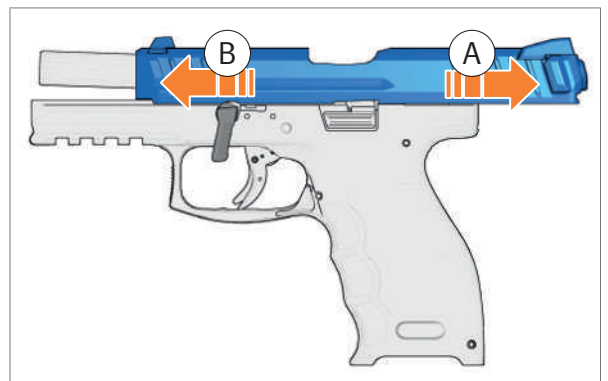

Fig. 61: Pushing slide from frame
4. Pull slide back and hold it (*Fig. 61*).
5. Move slide forwards slowly and push it from frame (*Fig. 61*).